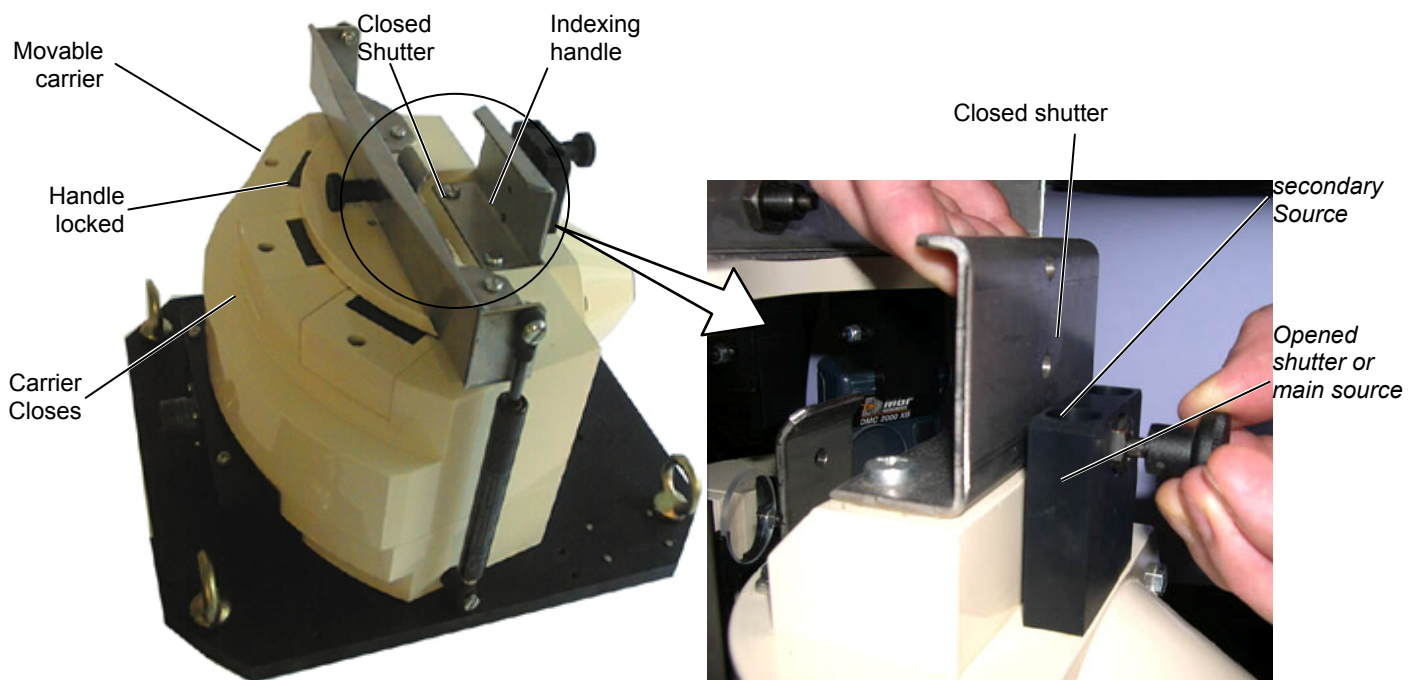

Figure 1 - View from the irradiator side and detail of the shutter in the open position
- In the closed position, the precise positioning of the dosimeters regarding the source and the direct exposure of the detector area to the beam generated by the source. (See Figure 1).